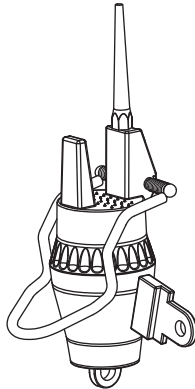

Figure 1 WSO-11 Radio Activation
- Step 2. Hold the exposed magnet over the **ACTIVATE** label (see *Figure 1*) on the WSO-11 for a minimum of ten seconds.